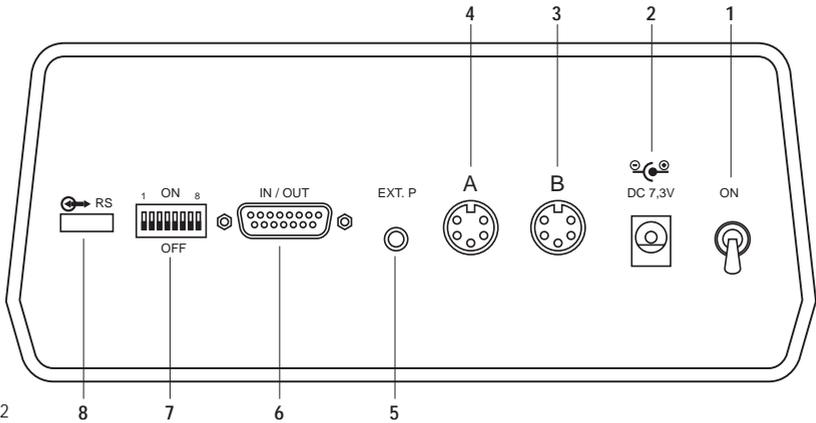

Fig. 2
- Insert plug of power supply adapter into socket (No 2 Fig. 2), and connect power supply to mains 230 V (or 115 V for USA).
- Connect gauge head(s) to input socket (No 3 and 4 Fig. 2).
- Push the ON/OFF switch (No 1 Fig. 2) to power up the instrument. The instrument now runs a self test, duration about 2 seconds.
The key , the external input switch socket (No 5 Fig. 2) and the pins 7 and 14 of the 15 pin connector (No 6 Fig. 2) have the same function.